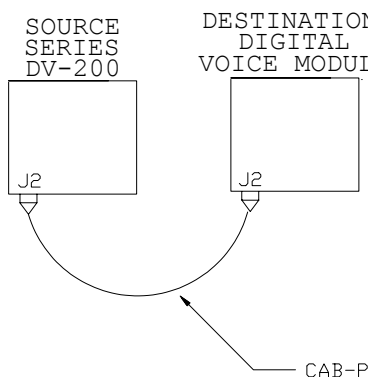

Figure 4.
1. Connect the J2 (see Figure 4) connectors on both the source Series DV-200 and the destination digital voice module using Wheelock Model Number CAB-P cable (not supplied with either panel, must be ordered separately).